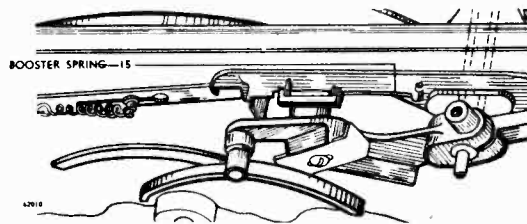

FIGURE 17. BOTTOM VIEW
2. Booster spring too strong. Relax booster spring (15) pressure slightly bending outward (fig. 17).